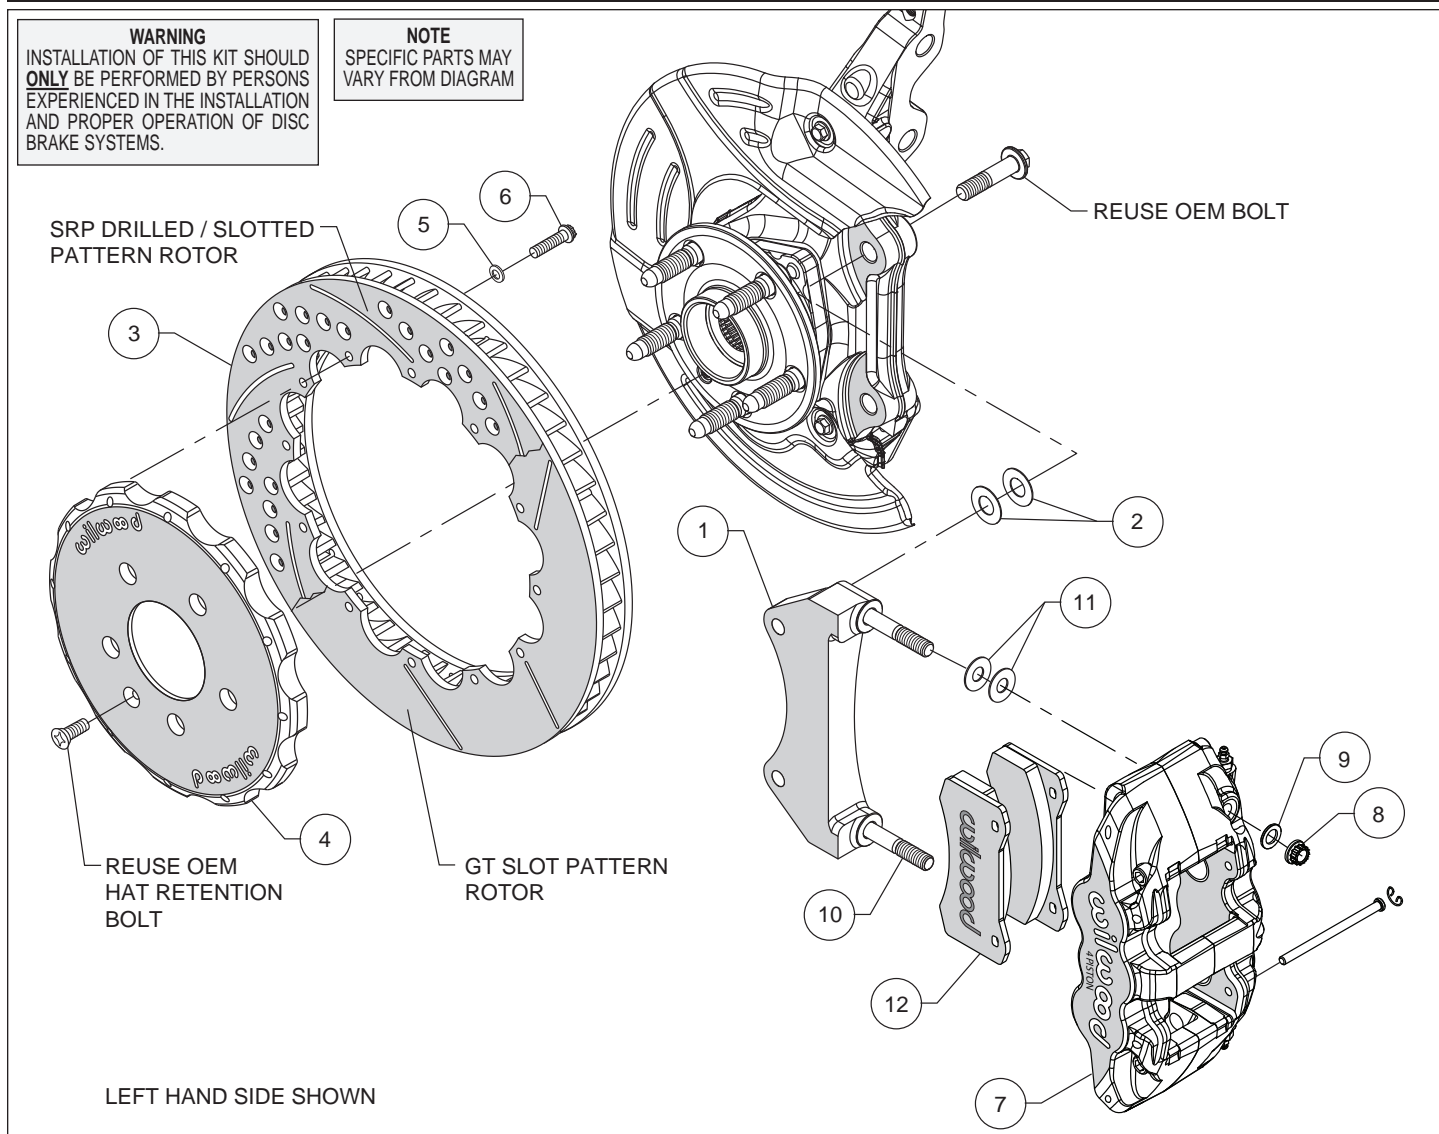
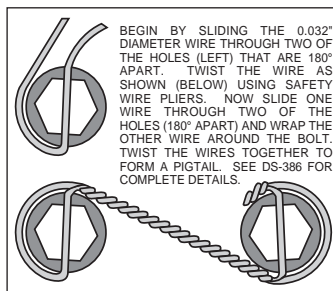

Figure 1. Typical Installation Configuration
Figure 3. Safety Wire Diagram
Assembly Instructions (numbers in parenthesis refer to the parts list and Figure 1 on the preceding pages):
- The caliper mount bracket (1) should initially be installed with clean, dry threads on the mounting bolts. Orient the bracket as shown in Figure 1 and install using the saved OEM caliper mount bolts. Initially place two .029" thick shims (2) on each bolt between the bracket and upright, Figure 1 and Photo 1. Temporarily tighten the mounting bolts. **NOTE:** The bracket must fit squarely against the mount bosses on the upright. Inspect for interference from casting irregularities, machining ridges, burrs, etc. Later, after the caliper alignment has been checked, the mount bolts will be secured using red *Loctite*® 271.
- Orient the rotor (3) and the hat (4) as shown in Figure 1 and Photo 2. Attach rotor to hat using bolts (6) and washers (5). Using an alternating sequence, apply red *Loctite*® 271 to the threads and torque bolts to 155 in-lb. For an added measure of security, the bolts may be safety wired using standard 0.032 inch diameter stainless steel safety wire as shown in Figure 3. Please refer to Wilwood's data sheet DS-386 (available at www.wilwood.com/Pdf/DataSheets/ds386.pdf) for complete safety wire installation instructions.
- Slide the hat/rotor assembly onto the axle hub taking care to align the small countersunk hole in the hat (4) with the small threaded hole in the axle hub, Figure 1. **NOTE:** The hat must fit flush against the axle hub flange or excessive rotor run out may result. Install three lug nuts (finger tight) to keep the hat/rotor assembly in place while continuing with the installation.
- NOTE:** This kit contains distinct right and left hand calipers that must be mounted in a specific direction, as described below. Lubricate the caliper mounting studs (10) with lightweight oil. Initially place two .030" thick shims (11) on each stud between the caliper and the bracket, as shown in Figure 1 and Photo 3. Mount the caliper (7) onto the bracket (1) using lock nuts (8) and washers (9), Figure 1. Temporarily tighten the lock nuts. Ensure that the caliper is mounted so the largest pistons are at the rotor exit end of the caliper, in relation to the direction of the rotor. View the rotor through the top opening of the caliper. The rotor should be centered in the caliper, Photo 4. If not, adjust by adding or subtracting shims (2) between the bracket and the upright. Always use the same amount of shims on each of the two mounting bolts. Once the caliper alignment is correct, remove the bracket mounting bolts one at a time, apply red *Loctite*® 271 to the threads, and torque to 65 ft-lbs.
- Remove the two pad retaining pins from the caliper (7) by carefully popping out the pin retaining clips and sliding out the pins. Insert the brake pads (12) into the caliper from the bottom, Figure 1 and Photo 5. With the friction material facing the rotor, secure the brake pads in place with the pad retaining pins and clips, Photo 6. Reinstall the caliper onto the caliper mounting bracket and temporarily tighten the lock nuts. Check that the top of the brake pad is flush with the outside diameter of the rotor, Photo 7. If not, adjust by adding or subtracting shims (11) between the caliper and the bracket. After the caliper pad height is set, torque the caliper lock nuts (12) to 47 ft-lb.